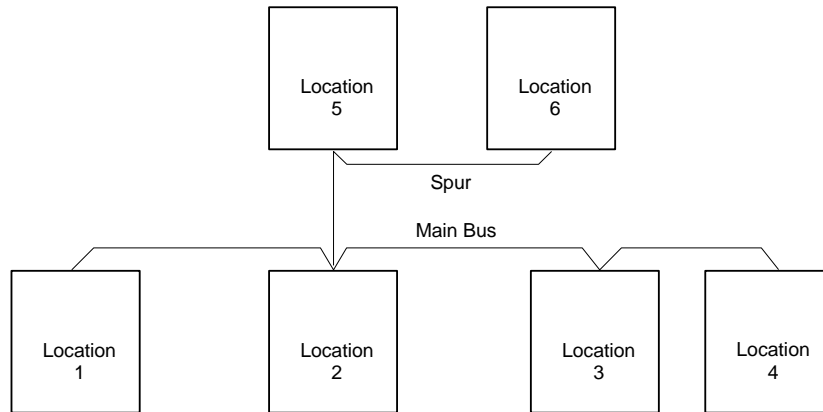
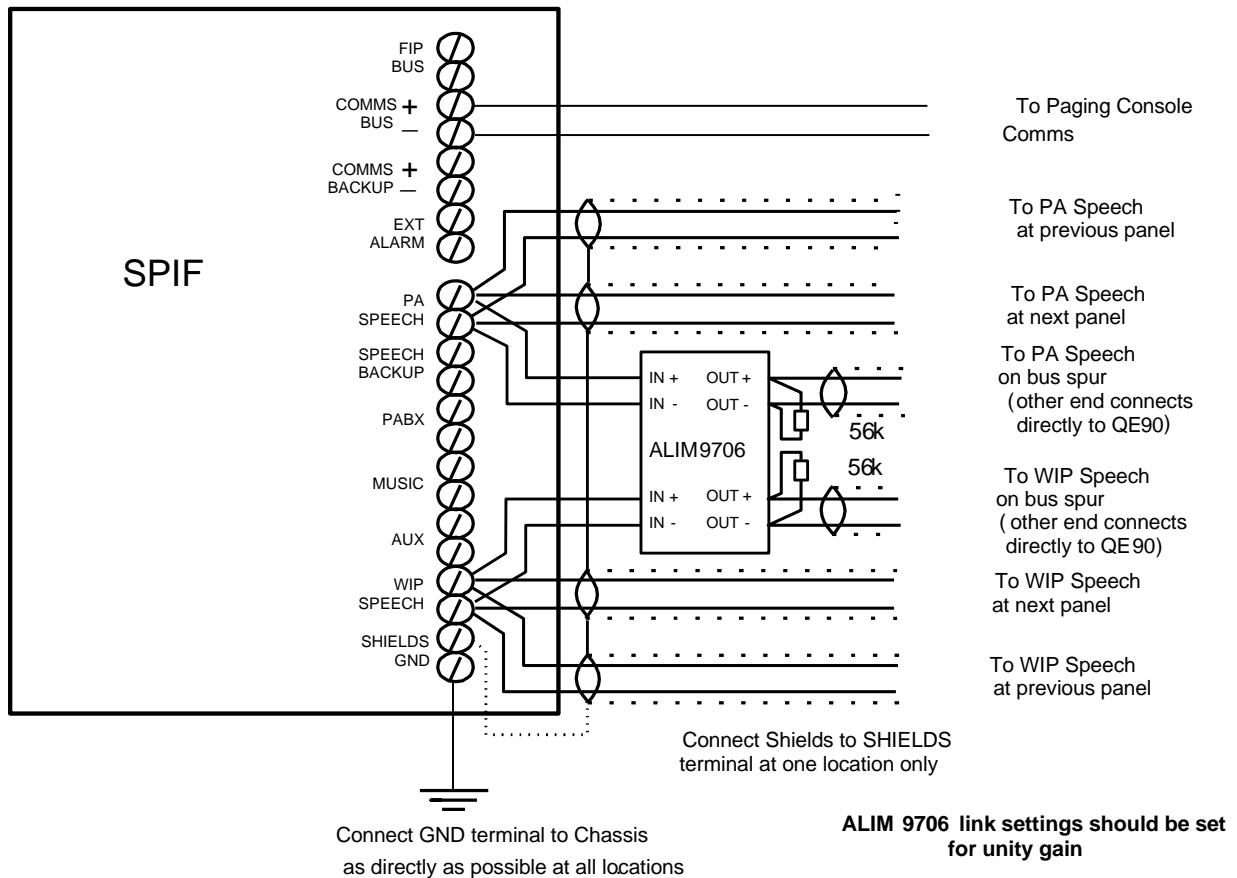

Figure 4 – Typical QE90 Network System (with spur)
Figure 5 – Use of ALIM9706 at QE90 Network Spur
- To allow spurs on the WIP speech and PA speech busses in a networked QE90 system. Refer Fig. 4 and 5 below.
Figure 5 shows in more detail the wiring of the ALIM9706 at the location where the spur joins the main bus (Location 2 in Figure 4). Other locations will not have a spur and so will not require the ALIM9706.